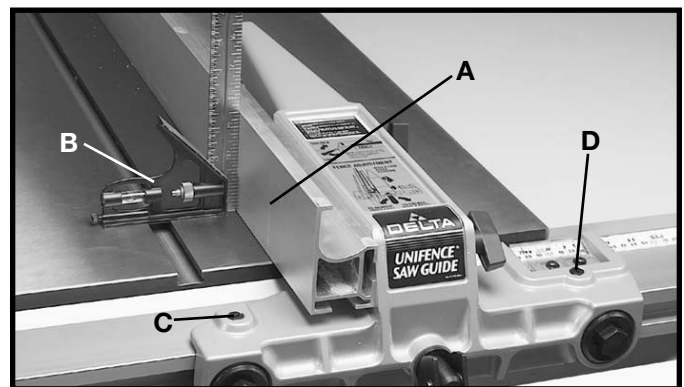

Fig. 83
The fence must be adjusted so that the face of fence (A) Fig. 83, is 90 degrees to the table. To check if the fence is 90 degrees to the table, place a square (B) on the table with one end of the square against the fence, as shown. If an adjustment is necessary, tighten or loosen one of two screws (C) or (D) until the fence is 90 degrees to the table.